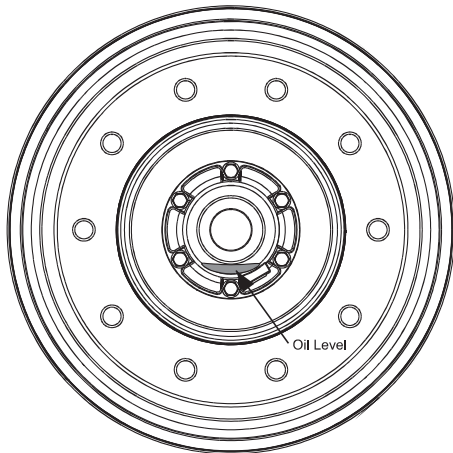

Figure 19 - Wheel Bearing Oil Level
16. Check oil level through the hubcap window (**Figure 19**). If level is below the “add” level line, then fill with recommended oil until “full” level is achieved. Add oil slowly since the heavy weight oil will settle slowly in the hub. (Note: The hubcap window can only be cleaned with mild soap and water. Aromatic solvents should not be used, as they will impair the transparency of the window.)